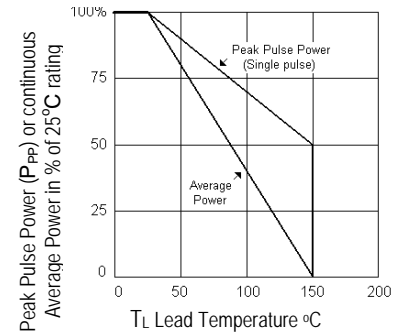
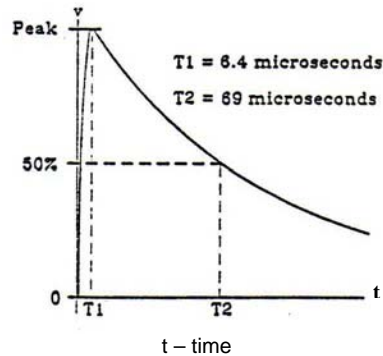

FIGURE 2
FIGURE 8 – Waveform 4
- Peak Pulse Power (P_{PP}) at 25°C: 130 kW at 6.4/69 μs per waveform in Figure 8 (derate per Figure 2)